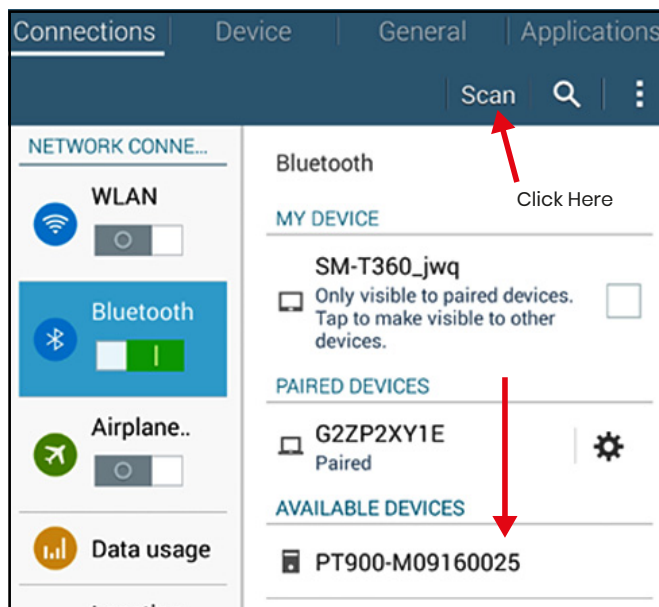

Figure 64: Available Devices List
7. In Android, APP will search for all available transmitters via Bluetooth. After the scan has been completed, any new transmitters which were found are listed in the AVAILABLE DEVICES section of the tablet screen (see red arrow in Figure 64 below). Click on your transmitter to pair it with the tablet via Bluetooth.